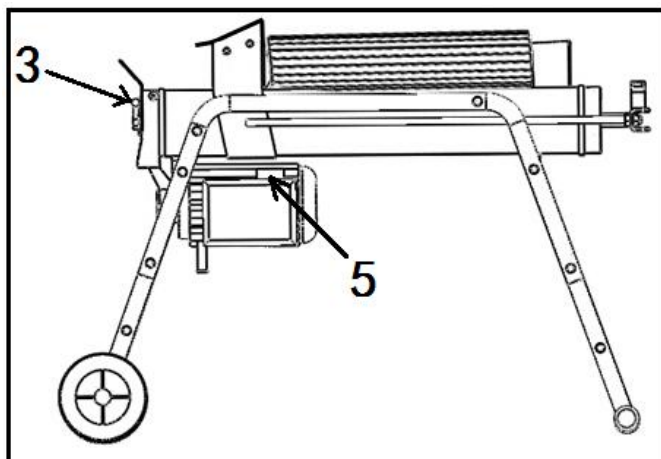

Afb. 7
PAS DE DRUKBEGRENZINGSSCHROEF (16) in AFB. 7 NIET AAN!